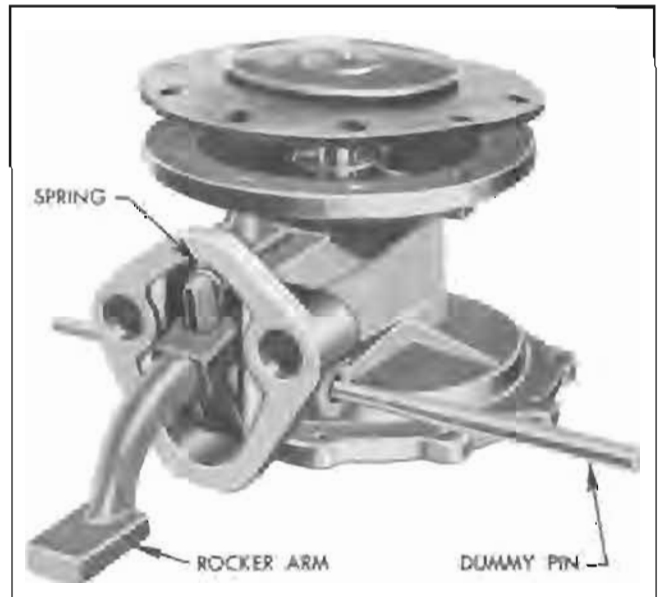

Figure 3-18—Rocker Arm and Links Held in Body by Dummy Pin
2. Insert drilled end of fuel link (short) into link spacer. Place one vacuum link (long) on each side of spacer so that the hooked ends of long links come together. The hooked ends of all links and the projection on link spacer must point as shown in figure 3-18.
5. Stand the pump body on the bench, fuel flange down. Set rocker arm spring in body with one end over cone cast into body. Slide rocker arm and link assembly into body, with open end of all link hooks pointing up toward vacuum flange, and engage rocker arm spring with projection on link spacer. Hold parts in body with the *small end* of Rocker Arm Dummy Pin KMO-707 (AC No. PT-6). See figure 3-18.